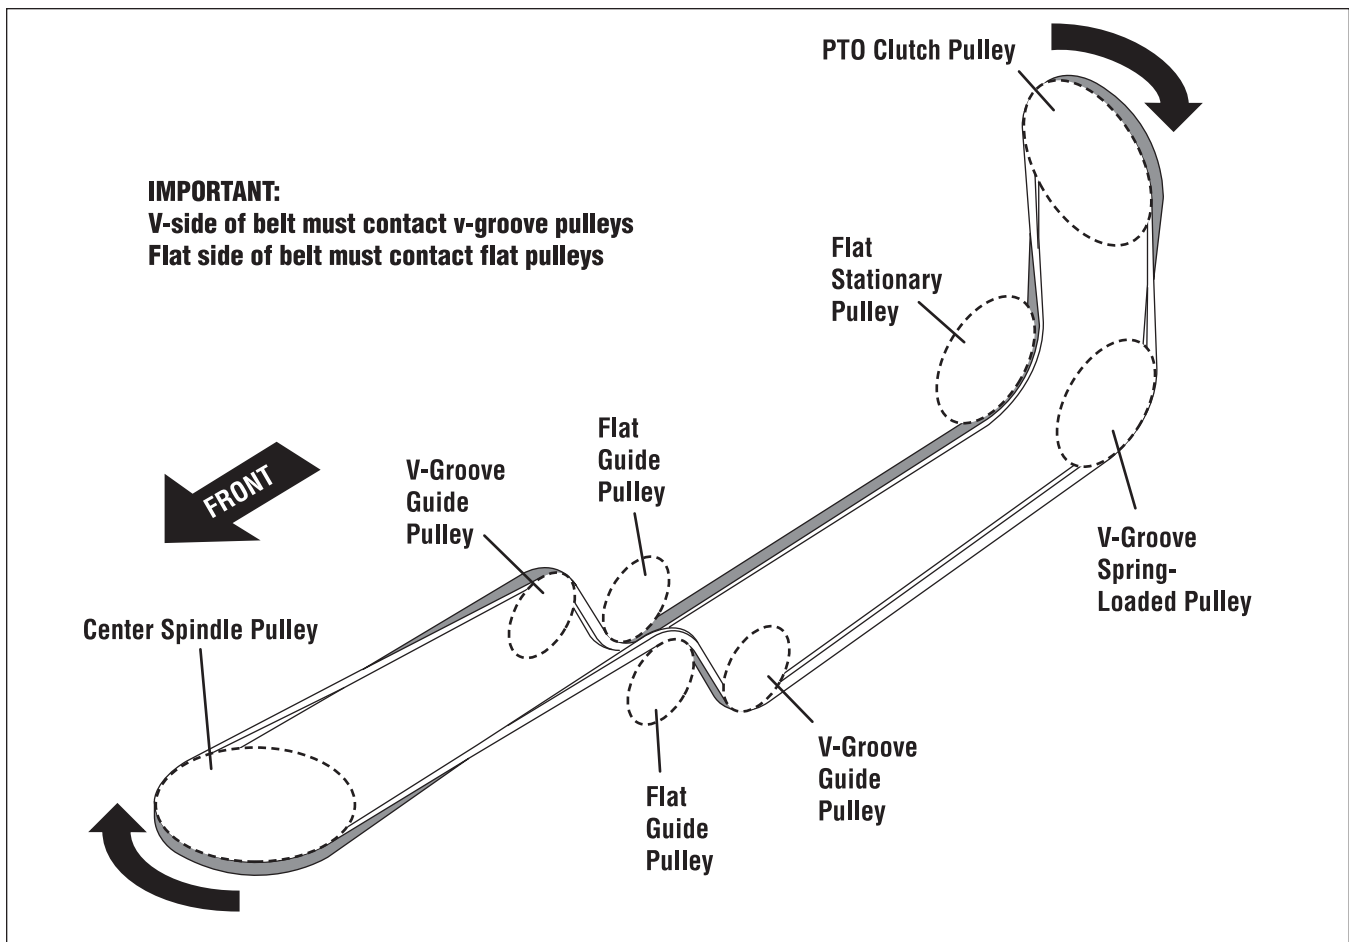

Figure 51. PTO Belt Routing
2. Install the belt on the center spindle pulley. Follow the illustration in Figure 51 carefully. Make sure the belt twists in the correct direction.
3. Install the belt over the PTO clutch pulley and the spring loaded idler pulley. Again, follow the illustration in Figure 51 carefully and make sure the belt twists in the correct direction.